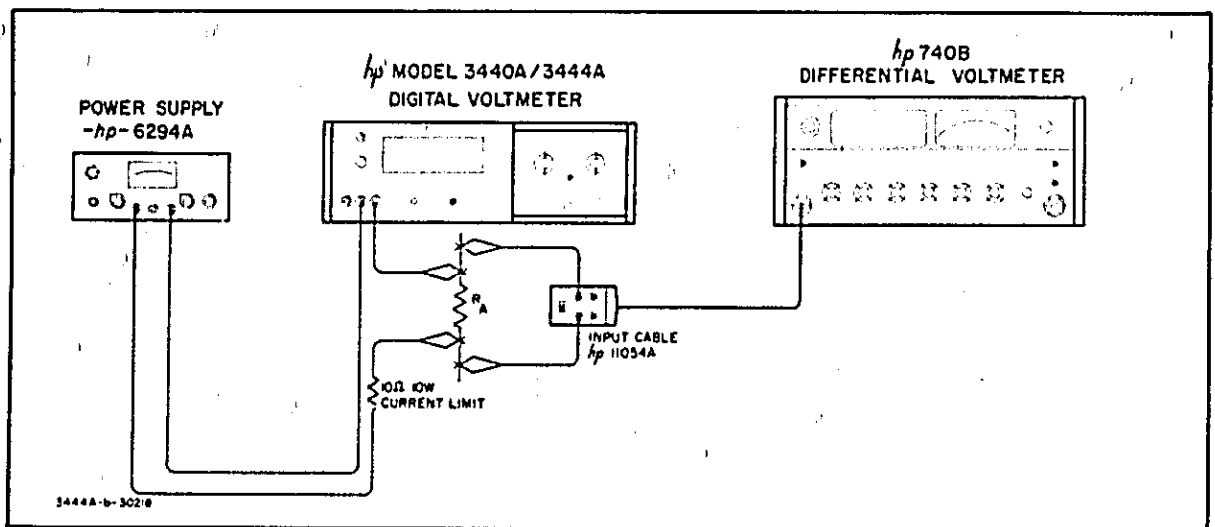

Figure 5-2. Ammeter Accuracy Check
- a. Connect equipment as shown in Figure 5-2.
- g. Connect a 10 kilohms ±0.002% resistor in the R_A position shown in Figure 5-2. Adjust dc power supply output to obtain a 1.000 V reading on the differential voltmeter. 3440A indication should be 99.79 to 00.21.
- e. Using equipment and test set-up shown in Figure 5-2 in addition to printer, perform checks given in Table 5-4 and compare printout with Tables 5-6 and 5-7. Again, columns 2 through 5 should match 3440A readout.